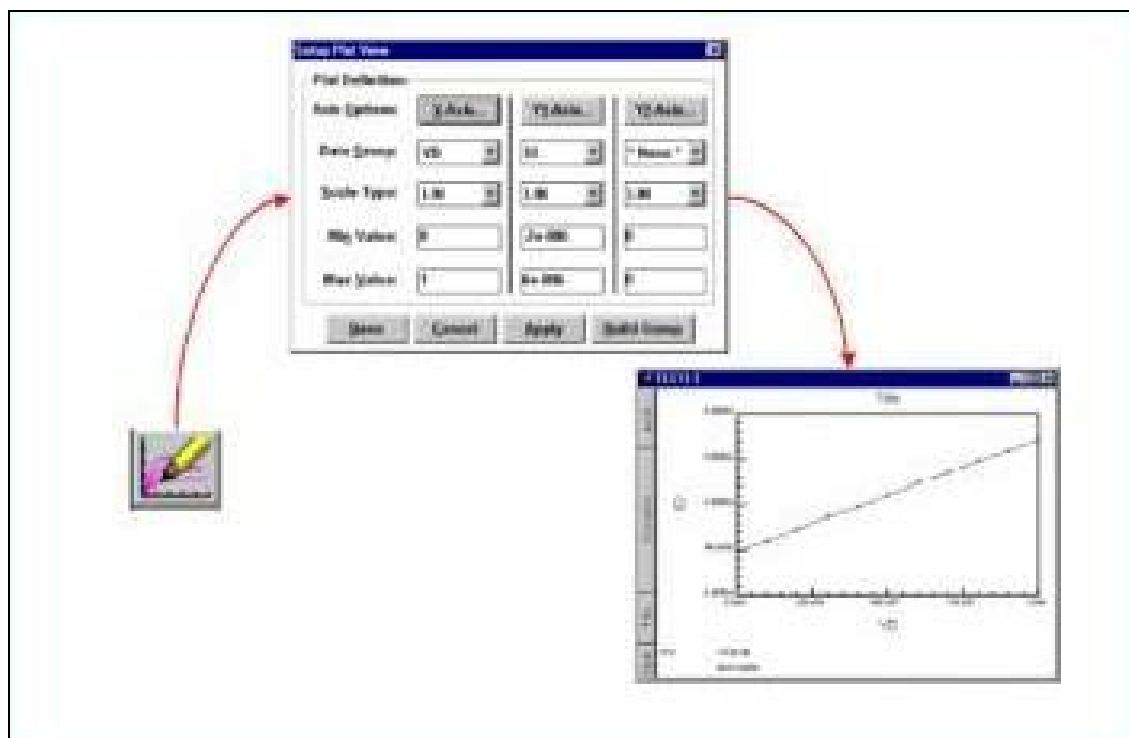

Figure 9
9.3.2.8 The data plotter is used to display data taken by the current measurement (Figure 9).